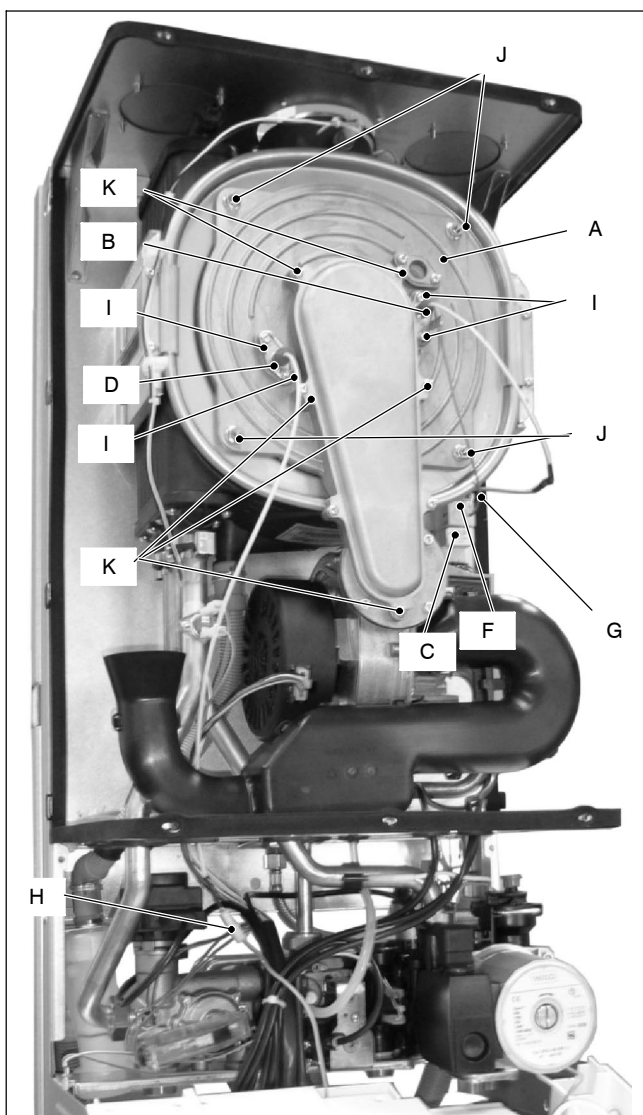

Fig. 18.1
- 2 Disconnect the ignition electrodes connector *F* and the earth wire *G* from the spark generator *C* (Fig. 18.1) and disconnect the detection electrode connector *H*.
- 3 Unscrew the screws *I* and remove the ignition electrodes *B* and the detection electrode *D* (Fig. 18.1).
- 3 Unscrew the screws *J* (Fig. 18.1)and remove the cover of the combustion chamber.
- 4 Unscrew the screws *K* (Fig. 18.1) and remove the Air–gas duct lid.